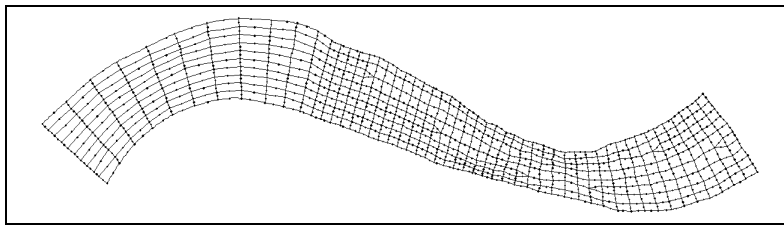

Figure 8-11. Example nodestrings for smoothing the mesh boundary.
3. Select *Nodestrings | Smooth*. The mesh boundary will be smoothed as shown in Figure 8-11.